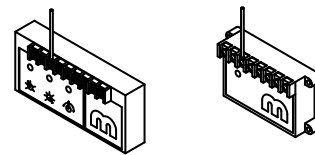

Figure 1
- b.1. **For EDL, EDR, EDSM, and EDSM/TP control systems**, remove the wire from terminal #3 on the amplifier (see Figure 1).